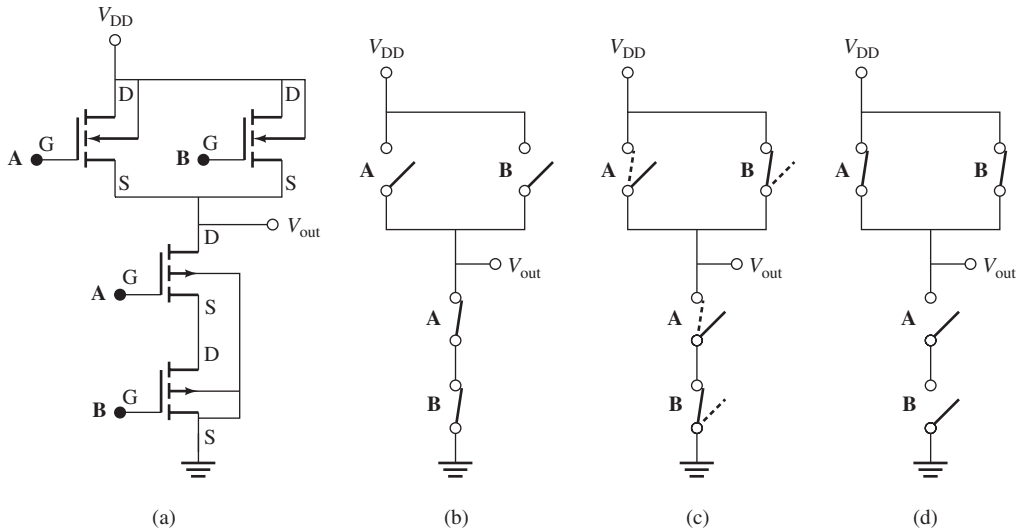

FIGURE 8.76 The logic gate for Example 8.25.
Develop the truth table of the two-input gate for the circuit shown in Figure 8.76(a). That is, determine the output voltage, V_{out} , in terms of inputs A and B when they are high (1) or low (0), for example, when both are 0, both are 1, and one is 0 and the other is 1. What is this operation?
It is clear that when both A and B are low (0), the NMOS will be OFF and the PMOS will be ON, thus, the output will be connected to the ground, i.e., the output will be low (0). This scenario is shown in Figure 8.76(b). When one of these inputs is high (1) and the other is low (0), the two series PMOSs block the output to be zero while one of the two parallel NMOSs allows connection to the V_{DD} . This scenario is shown in Figure 8.76(c). When both A and B are high (1), the output will be connected to V_{DD} , while the two PMOSs avoid connection to the ground. Thus, the output will be high (1) [see Figure 8.76(d)]. The solution is shown in Table 8.5. Based on this table, the output will be an OR gate (see Chapter 10).
TABLE 8.5 The Truth Table for Figure 8.76(a)